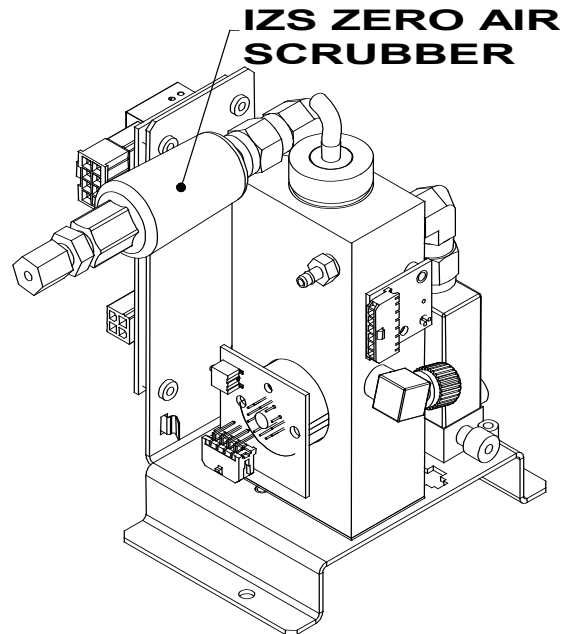

Figure 5-15: IZS O₃ Generator Zero Air Scrubber Location
3. The IZS zero air scrubber is attached to the brass elbow inlet fitting on the top of the O₃ generator assembly. See Figure 5-15.